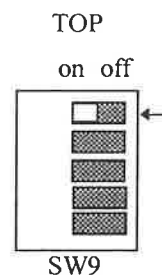

Figure 2
- STACKER OPERATION WHEN FULL (Refer to Fig. 2) - When a stacker bill box becomes completely full, the changer will be disabled and will be unable to accept more money. The "OUT OF SERVICE WHEN LIT" light will be illuminated. To remove the bill box, you must first lift up on the bill box latch rod (See instructions on bill box front). With rod lifted, slide bill box forward until free of stacker/note acceptor. Remove bills from bill box. To replace, slide bill box into stacker/note acceptor until bill box latch rod is firmly seated.
- REMOVING THE STACKER/NOTE ACCEPTOR (Refer to Fig. 2 & Fig. 3) - REMEMBER - Never connect or disconnect electrical cables with the power on. Unplug the hopper cord from J5 of the MCU Board. Remove the coin acceptor cord from either J1 or J6 (depending on which type of coin acceptor) and remove the power cord from J4 of the MCU Board. After releasing (lifting) the travel limit stop (that is located on the lower left side of the stacker opposite MCU side) slide the stacker/note acceptor out. To re-install the stacker/note acceptor, reverse this order.
Stacker - (Refer to Fig. 2) The bill stacker requires little or no maintenance. Remove any bill or paper scraps if present.
5. Change SW9 to the setting in Figure 2.